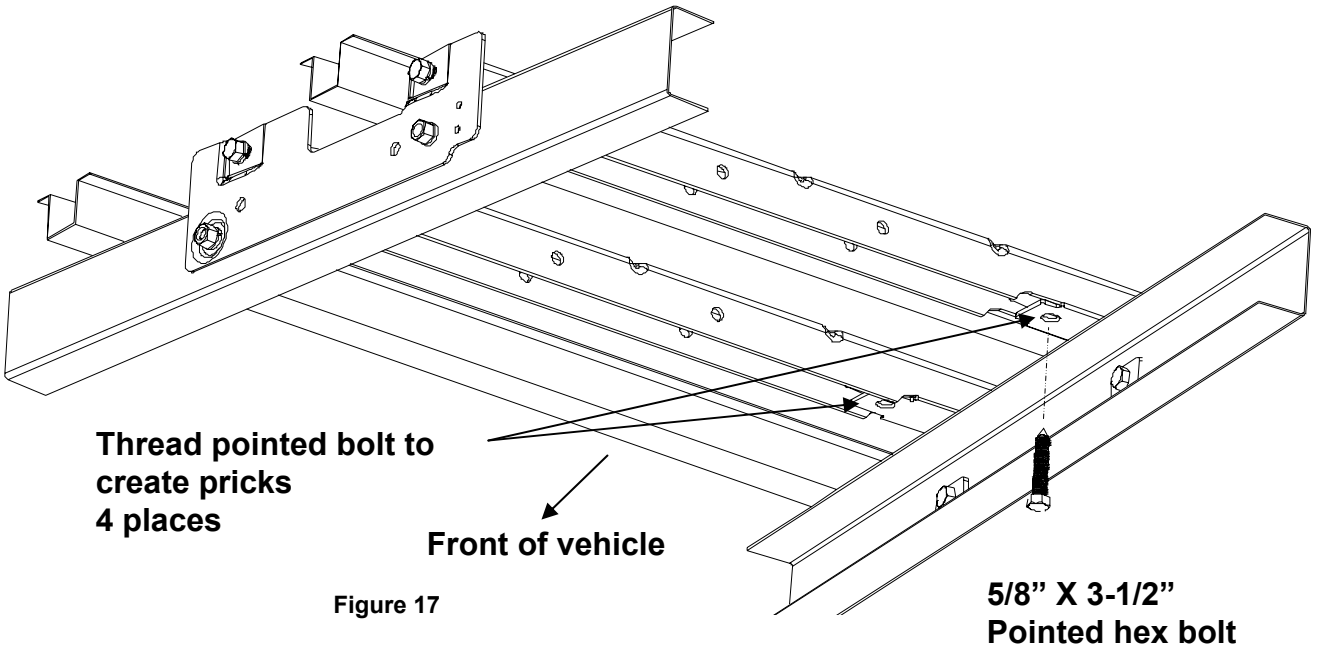
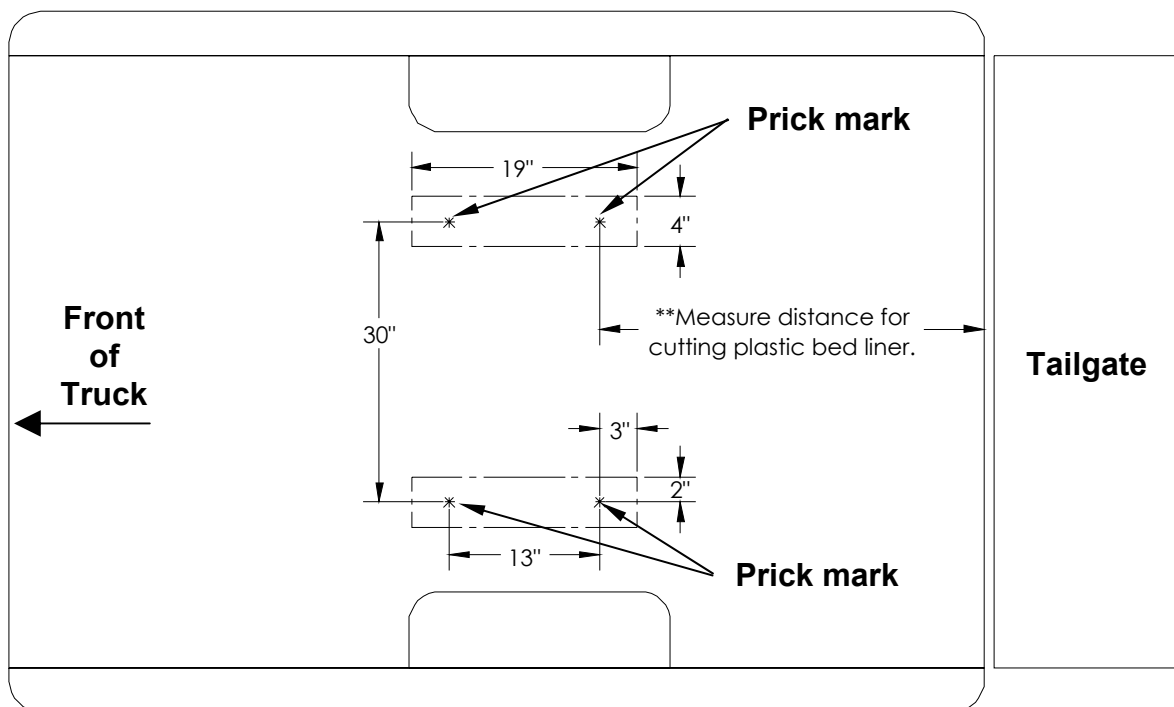

Figure 17
Figure 18
12. Thread the 5/8" X 3-1/2" pointed bolt through the welded nuts on the base rails (**Figure 17**) until prick marks are clearly visible in truck bed (**Figure 18**) in four places. If access to a welded nut on rail is obstructed prick three places and measure fourth prick mark using the dimensions given. (**Figure 18**)
13. If a plastic drop-in bed liner is used cut 19" X 4" slots in liner dimensioned from prick marks in truck bed. **(Figure 18)** Spray-in bed liners and bed mats less than 1/4" thick will work with normal installation instructions and do not need to be removed or cut. Replace plastic drop-in bed liners before installing fifth wheel hitch. If the *Signature Series* slider fifth wheel assembly is used, then see fifth wheel slider assembly instructions for slot cut dimensions.